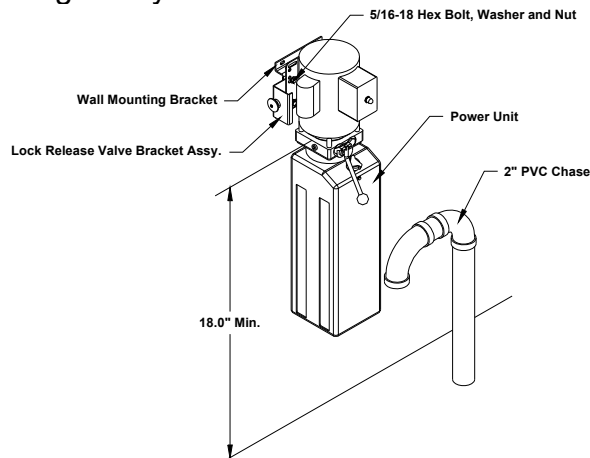

Fig. 5
5. Run the 2" PVC chase from the control area and join to the lift / containment assembly using the coupling provided. Use a soap water solution to ease assembly. All PVC joints must be leak proof. The power unit end of the chase should be finished as shown in **Fig. 5** to prevent contamination from entering the chase, while allowing the system to breathe.
16. Install the power unit mounting bracket or floor pedestal using the anchors provided. **IMPORTANT:** The electric motor must be mounted at least 18 inches above the finished floor level as per National Electric Code NFPA70. Assemble the power unit and lock release valve bracket to wall mounting bracket or pedestal with 5/16-18 cap screws and nuts provided. Refer to **Fig. 5**.